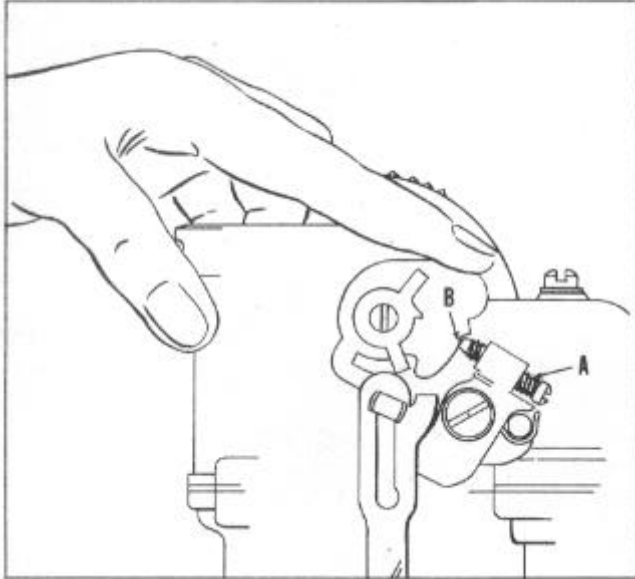

FIGURE 1
1. With the choke valve tightly closed and the fast idle screw on the high step of the fast idle cam, Figure 1, there should be .054" clearance between the throttle valves and bores of carburetor opposite side from idle port hole.